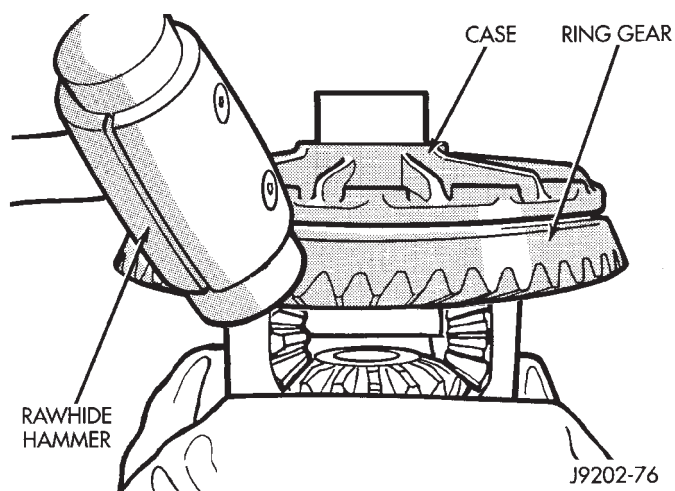

Fig. 29 Ring Gear Removal
(3) Clamp the differential case in a vise equipped with soft jaws. Remove **and discard** the ring gear bolts. Tap the ring gear with a rawhide mallet and remove (Fig. 29).